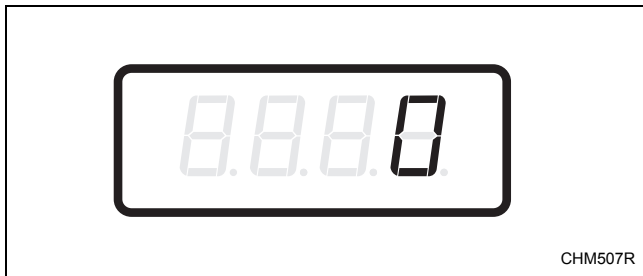

Figure 17
2. When “SA13” appears in the display, press the START (enter) keypad. There are five digits in the Special Vend A Vend Price #3. The fifth digit will appear in the display and will flash one second on and one second off. Refer to *Figure 17*.